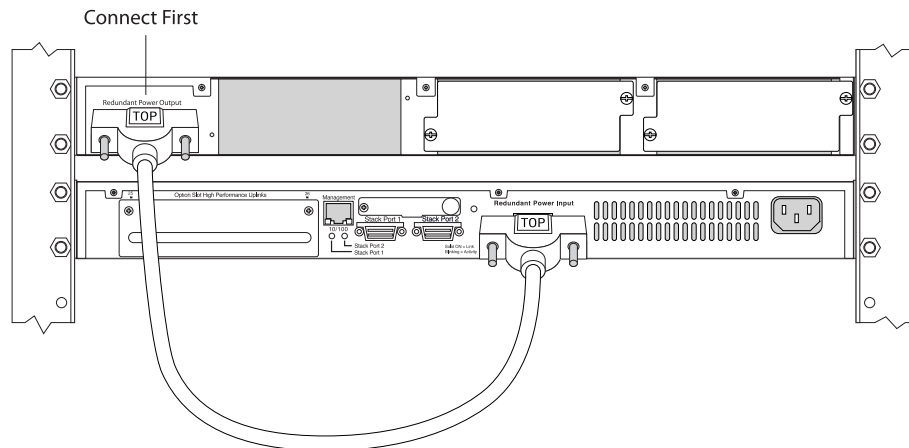

Figure 308: Installing the Redundant Power Cord
- Connect the keyed end of the redundant power cord to the EPS-C (see Figure 308). Verify that the side of the connector marked TOP is facing up.
- Connect the other end of the redundant power cord to the Summit X450e-48p or X250e-48p switch. Be sure that the side of the connector marked TOP is facing up (see Figure 308).